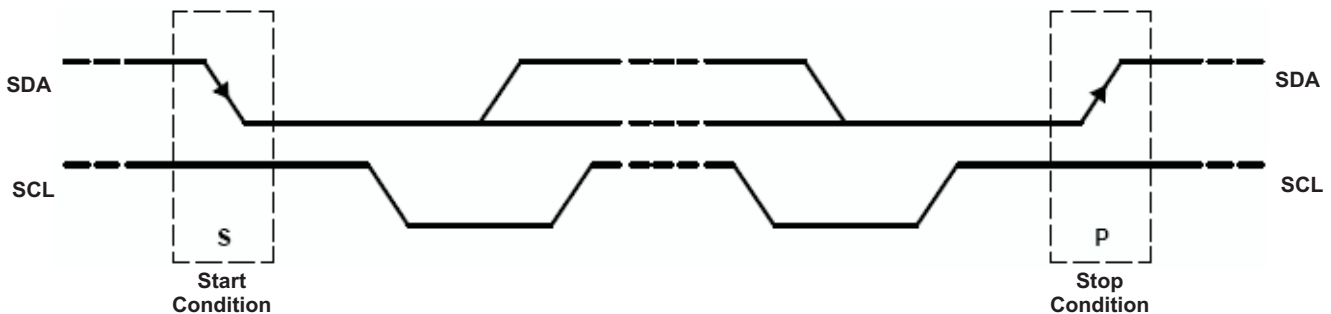

Figure 31. I²C Start and Stop Conditions
The basic I²C start and stop access cycles are shown in Figure 31.
- The *master* initiates data transfer by generating a *start condition*. The *start condition* is when a high-to-low transition occurs on the SDA line while SCL is high, as shown in Figure 31. All I²C-compatible devices should recognize a *start condition*.
- To signal the end of the data transfer, the master generates a *stop condition* by pulling the SDA line from low to high while the SCL line is high (see Figure 31). This releases the bus and stops the communication link with the addressed slave. All I²C compatible devices must recognize the *stop condition*. Upon the receipt of a stop condition, all devices know that the bus is released, and they wait for a *start condition* followed by a matching address.